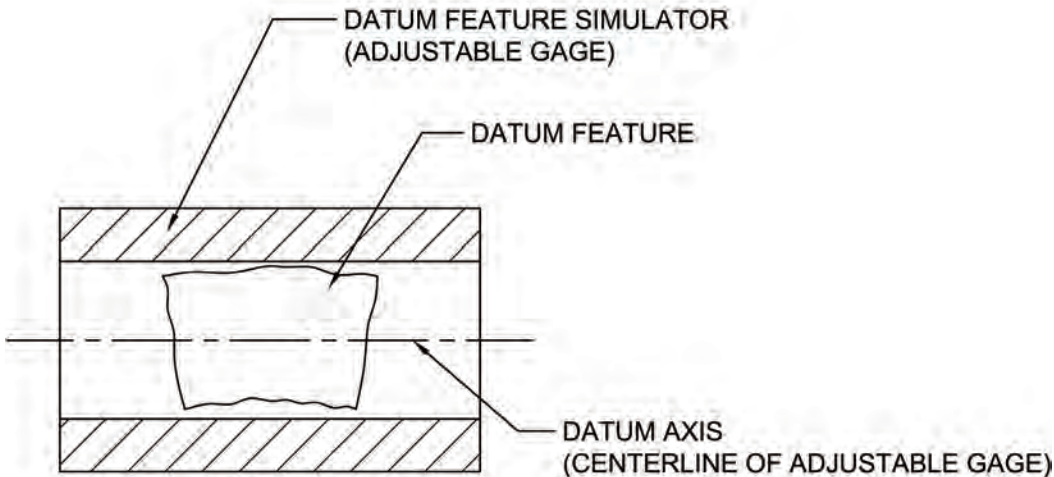

Figure 5-5 Datum feature vs. datum axis.
A datum plane is the datum simulator such as a surface plate. A datum axis is also the axis of a datum simulator such as a three (3) jaw chuck or an expandable collet (adjustable gage). It is important to note that two (2) mutually perpendicular planes can intersect a datum axis however there are an infinite number of planes that can intersect this axis (straight line). Only one (1) set of mutually perpendicular planes have to be established in order to stabilize the part (everyone has to get the same answer – does the part meet the drawing requirements?) therefore a feature that will orientate or “clock” or “stabilize” has to be contacted. The datum planes and datum axis establish the datum reference frame and are where measurements are made from. See Fig. 5-5 for Datum Feature vs Datum Axis.